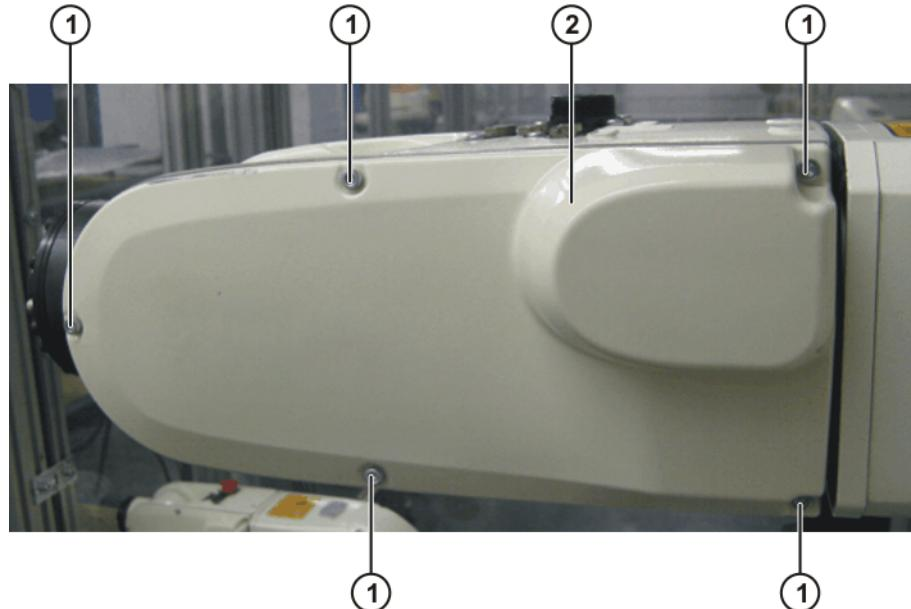

Fig. 11-8: Cover A6
1. Remove 5 screws (**>>>** Fig. 11-8) from the arm.
11. Mount the cover (>>> Fig. 11-8).